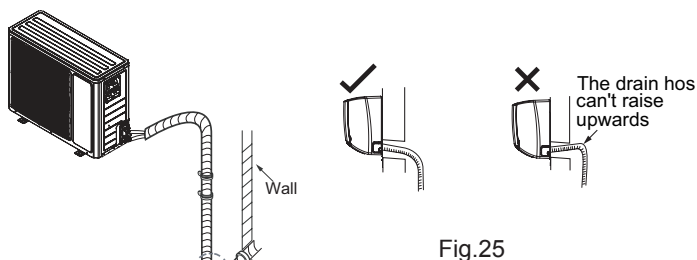

Fig.25
- (1) The through-wall height of drain hose shouldnt be higher than the outlet pipe hole of indoor unit.(As show in Fig.25)